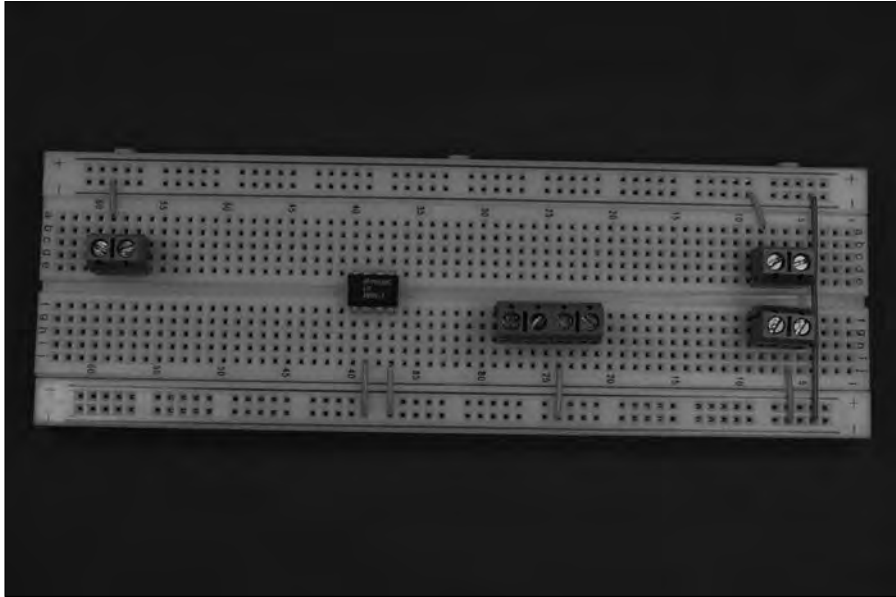

Figure 6-6:
2. **Insert wires to connect the IC and the terminal blocks to the ground bus and insert a wire between the two ground buses to connect them, as shown in Figure 6-6.**